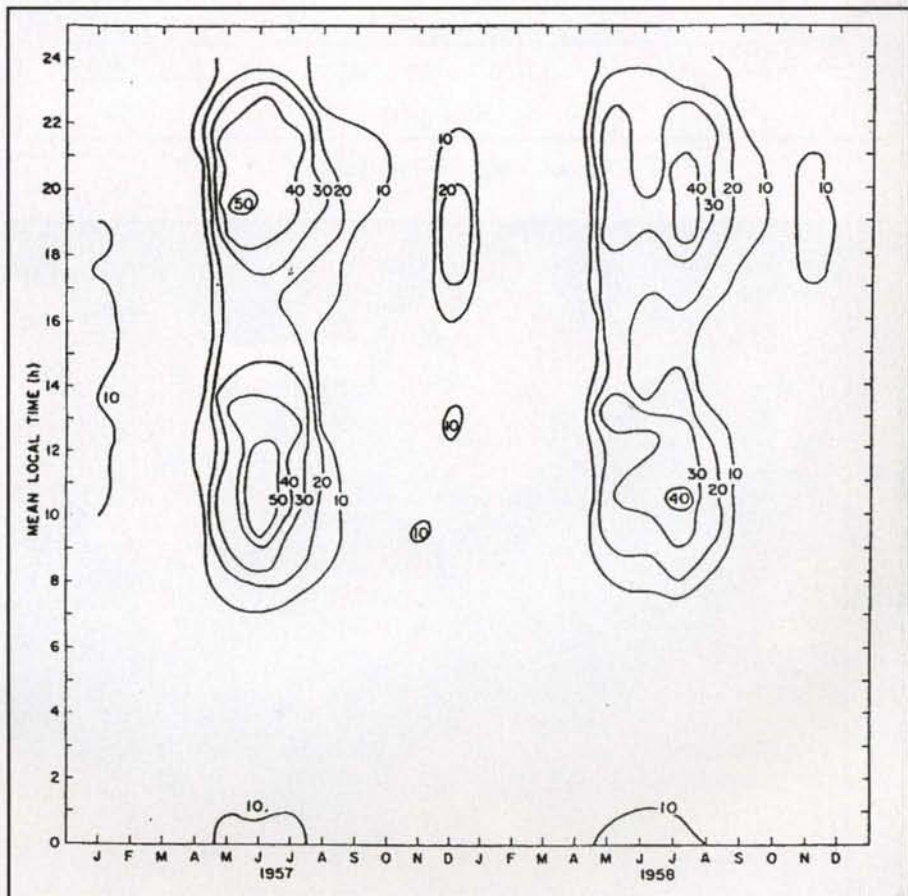

Figure 2. 50-MHz E_s probabilities.
To determine the statistical pattern of E_s propagation between J6 and EU, we'll use the plot of 50-MHz E_s probabilities from the *USAF Handbook of Geophysics*.¹ Figure 2 shows this plot.
tude, and at 4°W longitude. Next the local times at these four encounter points were determined, and the left-most data of figure 2 for the 1400 to 2200 UTC period was used for probabilities. The results of this exercise are in Table 1.
2. Since figure 2 is for latitudes between roughly 30 and 60 degrees, the probabilities on the J6 end of the path are a bit optimistic, since the encounter with the E_s patch on the